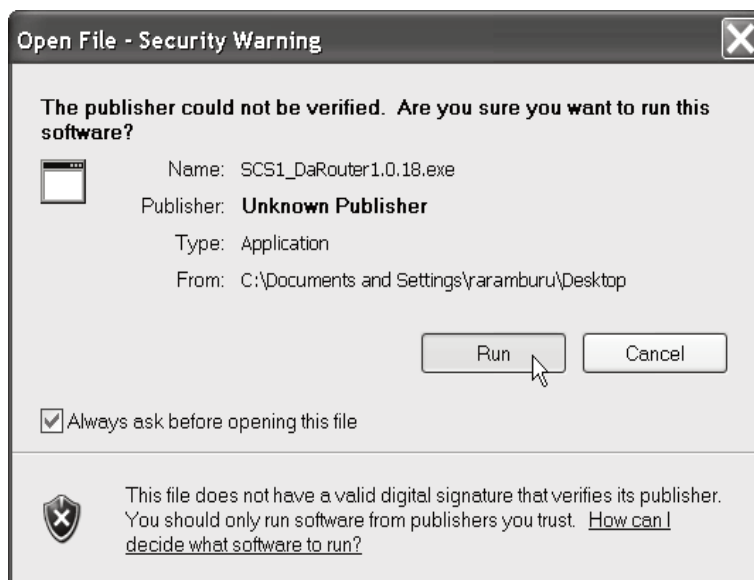

Figure 4.1
1. Double click the executable file (.exe). If the following Open File- Security Warning appears, click **Run**. (Figure 4.1)